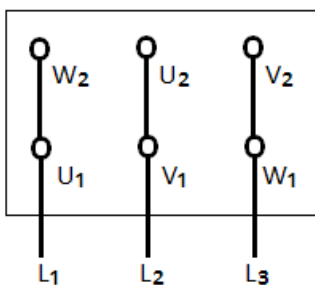

Figure 13a. Δ - connection
- Electrical connections varies according to motor power, power source and connection type. Required bridge connections in terminal box are as shown in **Table 3** and in **Figure 13a, 13b, and 13c**.